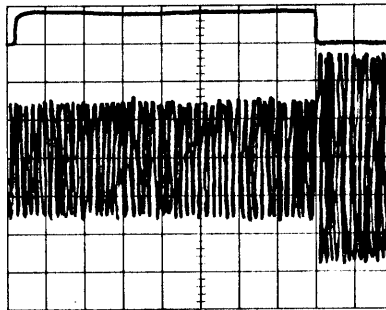

Figure A3-12. Read Playback Verification
**A3.6.6 Read Playback Verification Check (Figure A3-12)**